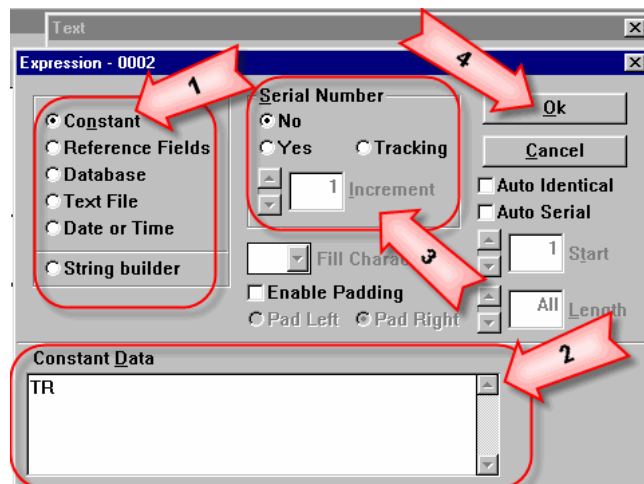

Figure 1-20
1.24. Now, we go back to our **Field Properties, > Expression** dialog box. (Figure 1-20)
1.25. See if the field contains a **Serial Number** option as called out by Figure 1-20 Arrow 3. If it does, be sure to note all the related settings.
1.26. Click [OK]. (Figure 1-20 Arrow 4)